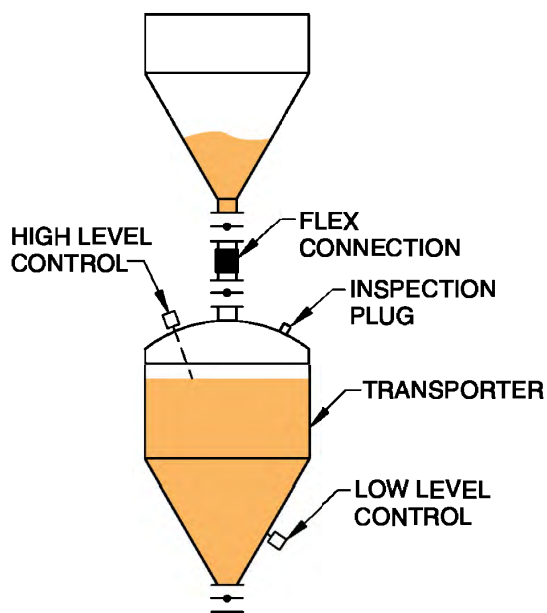
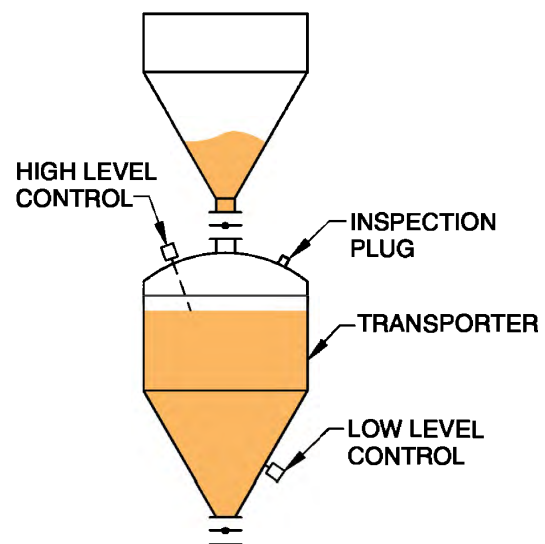

Fig. 2
Fig. 3
2. Full or high level controls in transporters (see Fig. 2 and Fig. 3) should be mounted low enough to allow the inlet valve sufficient time to close without overfilling vessel. This can be easily checked by removing the safety relief valve and/or opening the inspection port (if applicable) in the top of the vessel and then using a small probe to check the actual material level inside. The inlet valve should be allowed to close fully on a clean seat without material obstructions (see Fig. 2). It may be necessary to make a field adjustment of the level control since each material has a unique flow rate and pattern.